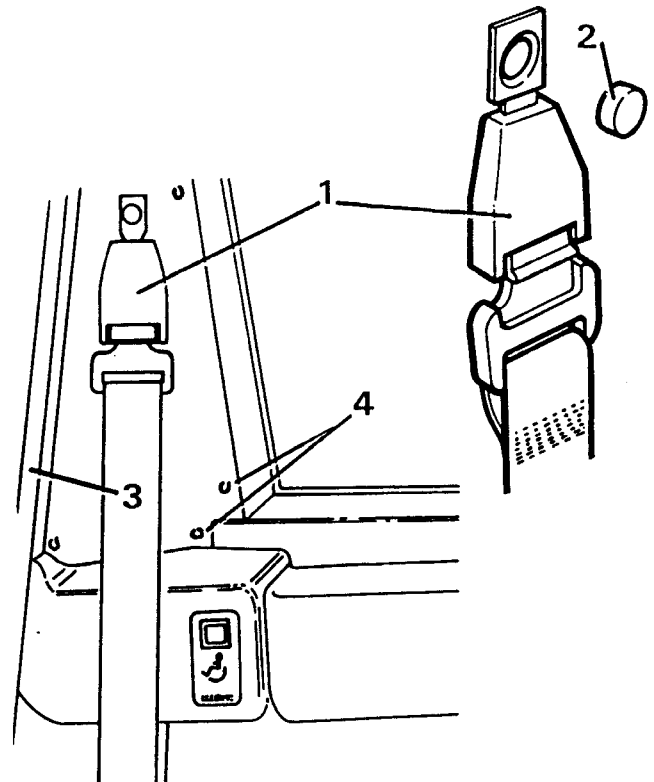

Figure 15
1. Release the buckle from the upper buckle release. See figure 15.